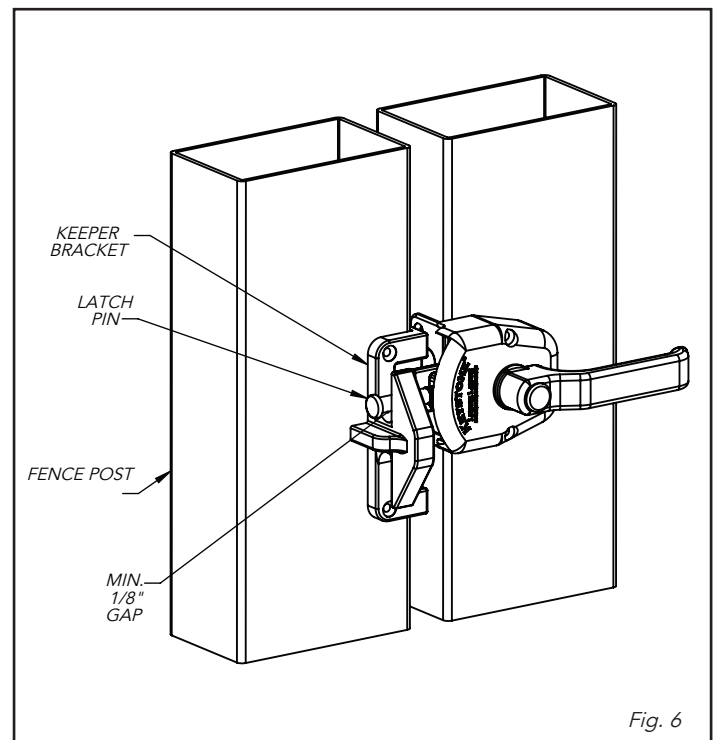

Fig. 6
1. Mount the front lever assembly to front of the gate (Fig. 6). The protruding 3/8" portion of the spindle tube should insert into the front lever assembly.
1. Place the keeper bracket on the fence post and align with the latch pin (Figure 6). The latch pin must have a minimum 1/8" gap from the bottom of the keeper bracket. Mark the location of the keeper mounting holes. Mount the keeper bracket using the supplied mounting screws.